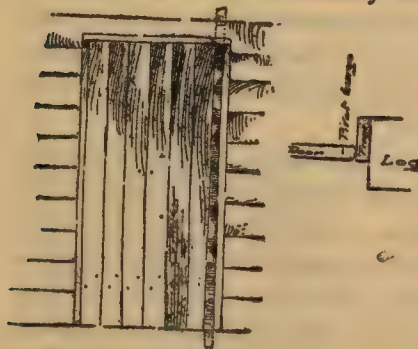

FIG. 31.
**DOOR HINGES.**—A good wrought-iron hinge is the best that you can get, but failing to have any, screw a pivotal stick (Fig. 31) from top to bottom on the edge of the door, so that it will extend into a round hole in the floor, and a corresponding one in the log over the top of the opening.